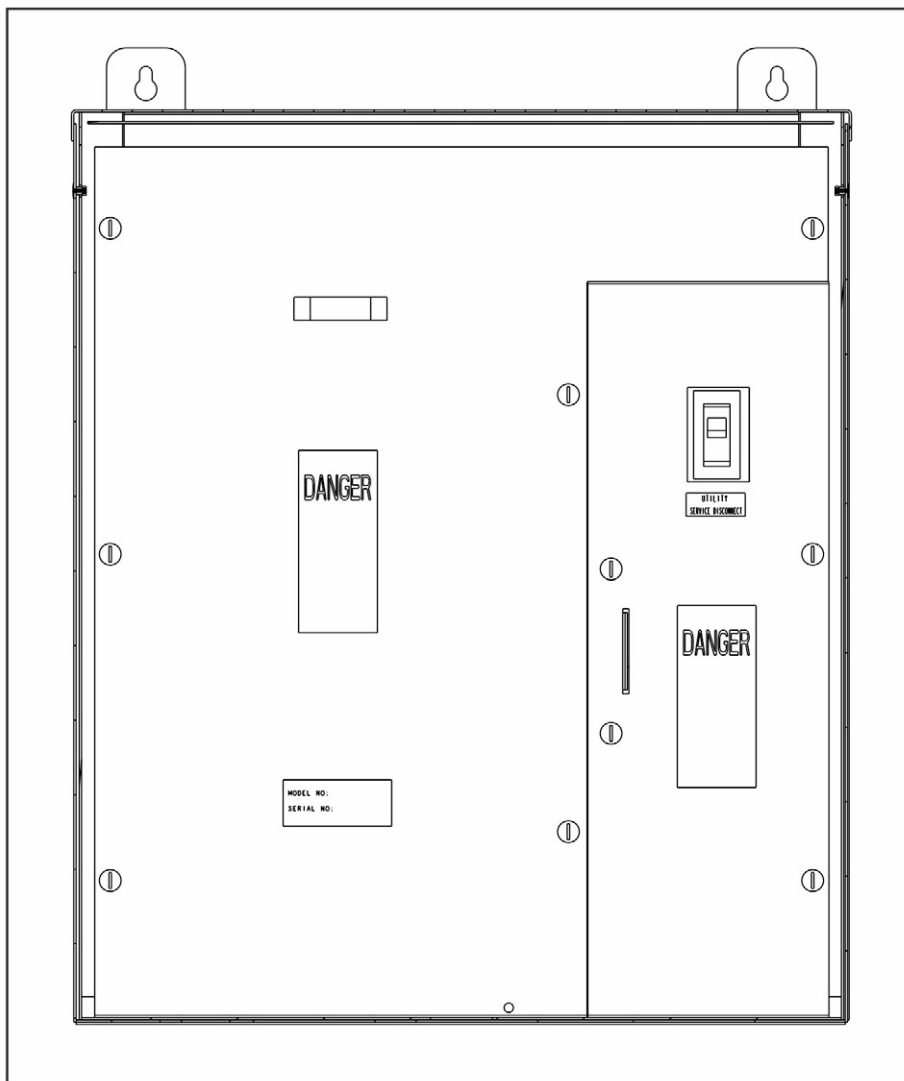
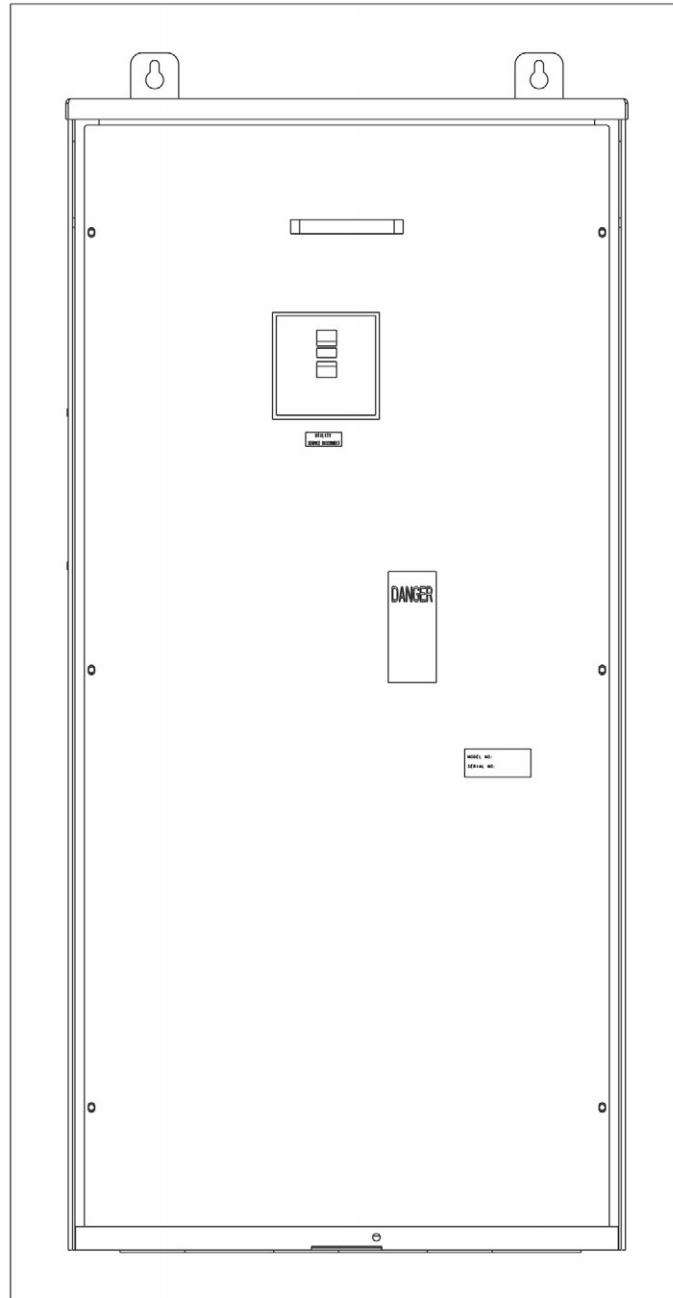

FIGURE 12. RA 100A AND RA 200A SERVICE ENTRANCE MODELS
FIGURE 13. RA 400A SERVICE ENTRANCE MODEL
- *Service entrance models:* A model and serial number label is located on the inner panel. To view the label, remove the outer panel (see Figure 12) and Figure 13.